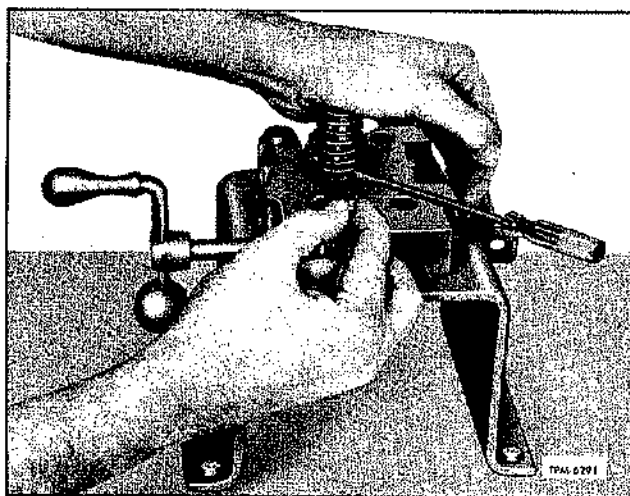

Figure 13—Removing Injector Follower Stop Pin
2. Compress follower spring. Then, using a screwdriver, raise spring above stop pin and withdraw the pin, as shown in figure 13. Allow plunger spring to rise gradually.
2. Compress follower spring as shown in figure 13. Then, using a screwdriver, raise spring above stop pin and withdraw pin. Allow follower spring to rise gradually.